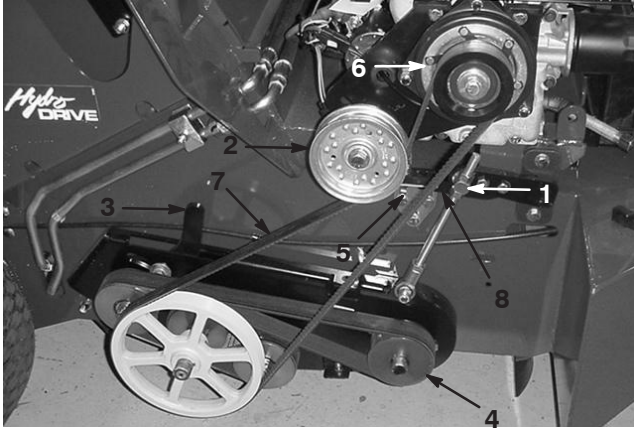

Figure 25
- To remove the upper belt, loosen the upper idler (Fig. 25) and remove belt from machine.
- To install upper belt, first verify that the upper idler (Fig. 25) is loosened and slides freely. Install belt on machine. To tighten idler, push down on idler with approximately 30 lbs. of force and tighten idler bolt. Do not use a lever for mechanical advantage. **Do not over tension belt. An over-tensioned belt can cause premature failure or wear. The electric clutch and other reel drive components are subject to damage when belts are over-tensioned.**
- To remove lower reversing belt, loosen the two bolts on the rear idler adjustment arm (Fig. 25). Move adjustment arm forward and remove belt.
Note: The inside and outside of the belt are not the same. When looking at the front reel pulley (Fig. 25), with the belt installed, there should be two wide grooves on either side visible. Tighten the idler adjustment arm by pulling rearward with approximately 30 lbs. Torque both clamping bolts to 48 ft-lbs. Do not use a lever or a pry-bar for mechanical advantage when tensioning the belt with the idler adjustment arm.
- Loosen the three bolts on the clutch switch bracket (Fig. 25).
- Slide the clutch switch bracket until there is 1/8" of the clutch switch flag (Fig. 25) protruding through the bottom of the clutch switch bracket.